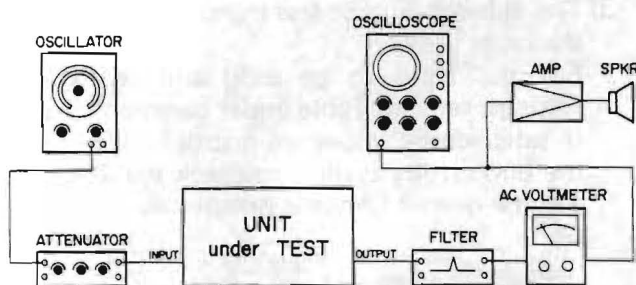

Fig. 7-5
- 1) Connect the measuring instruments as shown in Fig. 7-5. To check that erasing is effective, use a 1-kHz bandpass filter.
- 1) Connect the measuring instruments as shown in Fig. 7-5.